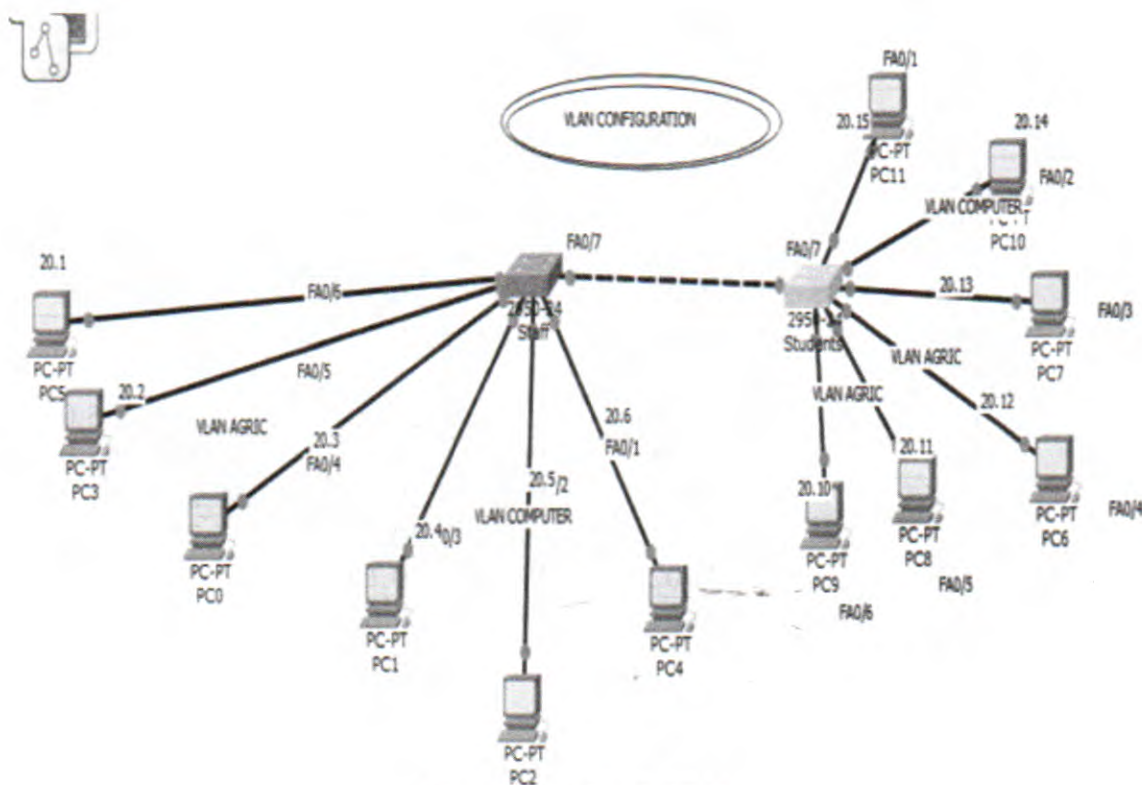

Figure 6.1: Topology for VLAN
1. Arrange the topology shown in Figure 6.1
5. Configure two VLANs on staff Switch namely Agric and Computer as shown in Fig 6.1
6. Configure VLAN on Students Switch namely Agric and Computer as shown in Fig 6.1